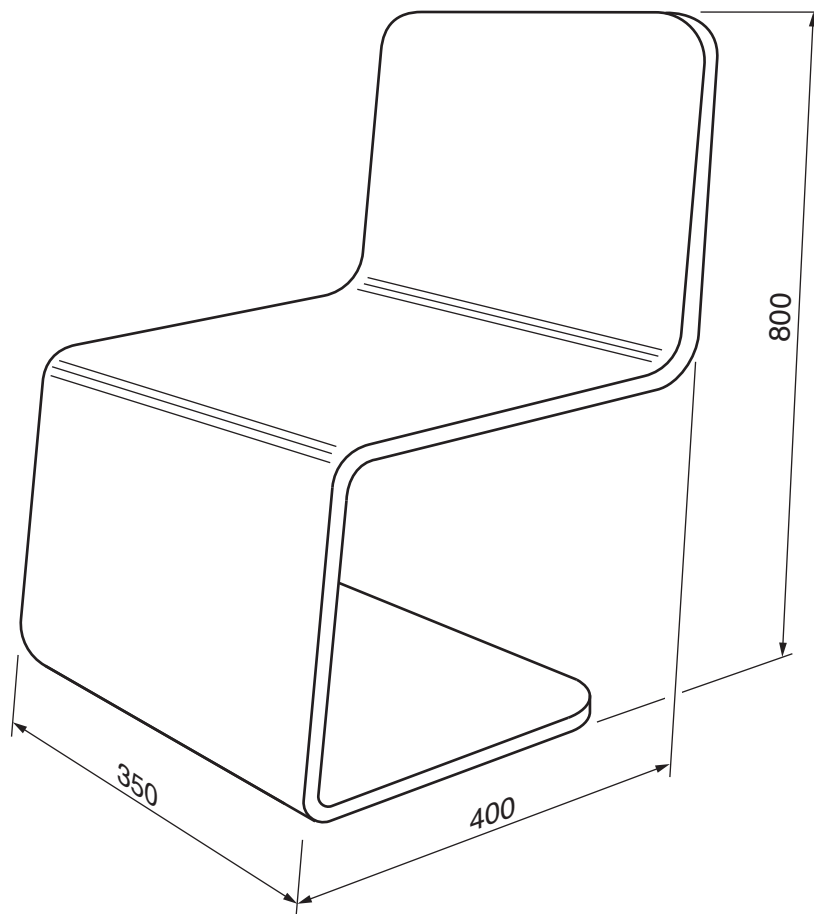

Fig. 6
- 6 Fig. 6 shows a chair which is made by laminating two sheets of 3 mm thick plywood together.